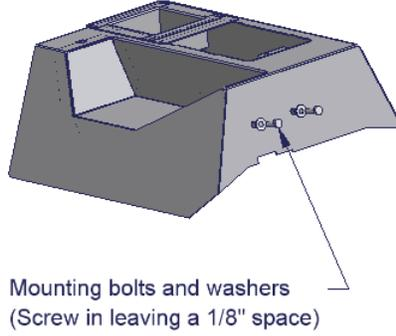

Figure 5
21. Attach the shift boot plate to the console using (2) 6-32 x 5/8 screws (SEE FIGURE 5). Position the shift boot plate flush against shift boot so it holds the shift boot tightly.